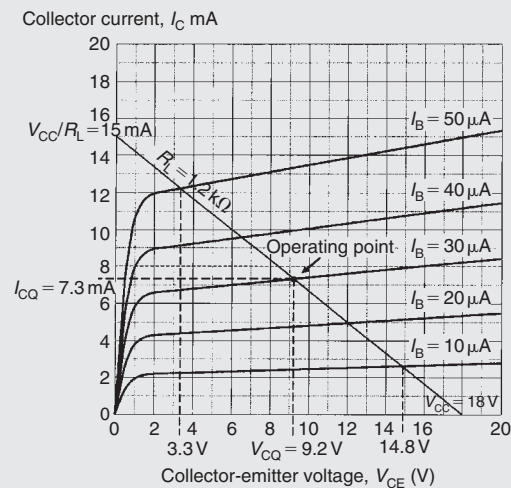

Figure 12.25
Problem 11. The characteristic curves shown in Fig. 12.25 relate to a transistor operating in common-emitter mode. If the transistor is operated with $I_B = 30\mu\text{A}$, a load resistor of $1.2\text{ k}\Omega$ and an 18 V supply, determine (a) the quiescent values of collector voltage and current (V_{CQ} and I_{CQ}), and (b) the peak-peak output voltage that would be produced by an input signal of $40\mu\text{A}$ peak-peak.
- (a) First we need to construct the load line on Fig. 12.25. The two ends of the load line will correspond to V_{CC} , the 18 V supply, on the collector-emitter voltage axis and $18\text{ V}/1.2\text{ k}\Omega$ or 15 mA on the collector current axis.
- (b) Next we can determine the maximum and minimum values of collector-emitter voltage by locating the appropriate intercept points on Fig. 12.25. Note that the maximum and minimum values of base current will be $(30\text{ }\mu\text{A} + 20\text{ }\mu\text{A}) = 50\text{ }\mu\text{A}$ on positive peaks of the signal and $(30\text{ }\mu\text{A} - 20\text{ }\mu\text{A}) = 10\text{ }\mu\text{A}$ on negative peaks of the signal. The maximum and minimum values of V_{CE} are, respectively, 14.8 V and 3.3 V. Hence,